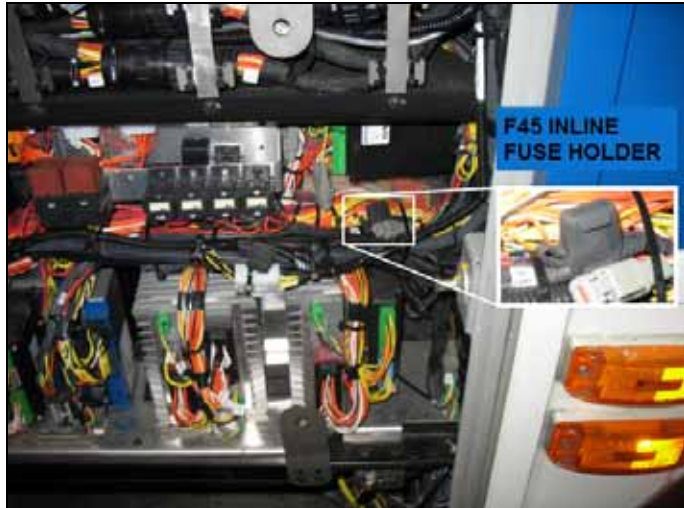

FIGURE 3: FUSE F45 INSIDE FRONT ELECTRICAL COMPARTMENT
- 4) Inside the front electrical compartment, pull fuse F45 to cut electrical supply to the AFSS protection panel. You will find F45 in an inline blade-type fuse holder among nearby harnesses (see figure 3).